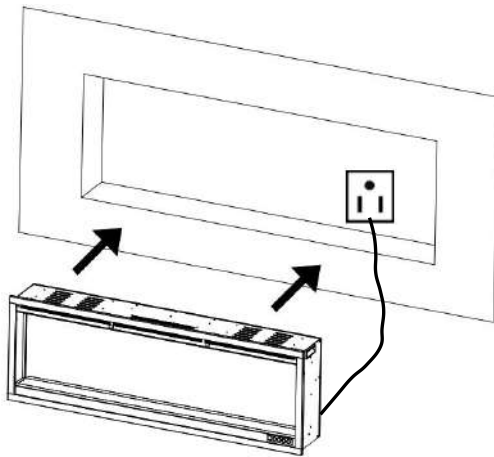
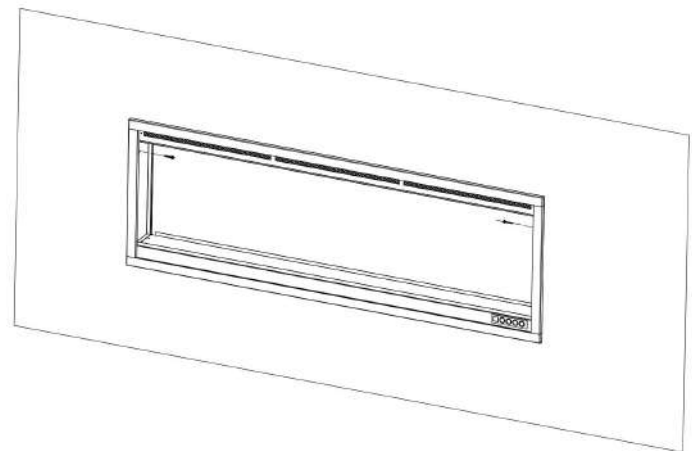

Fig. 2-3
Fig. 2-4
3. Power the fireplace by plug-into the wall receptacle. **Fig.2-3**
4. Have two adult people to lift up the fireplace and insert it into the rough-in frame and then secure it by installing 2 wood screws (B) through the holes. (Fig. 2-3, Fig 2-4). After that, re-install the metal brackets.